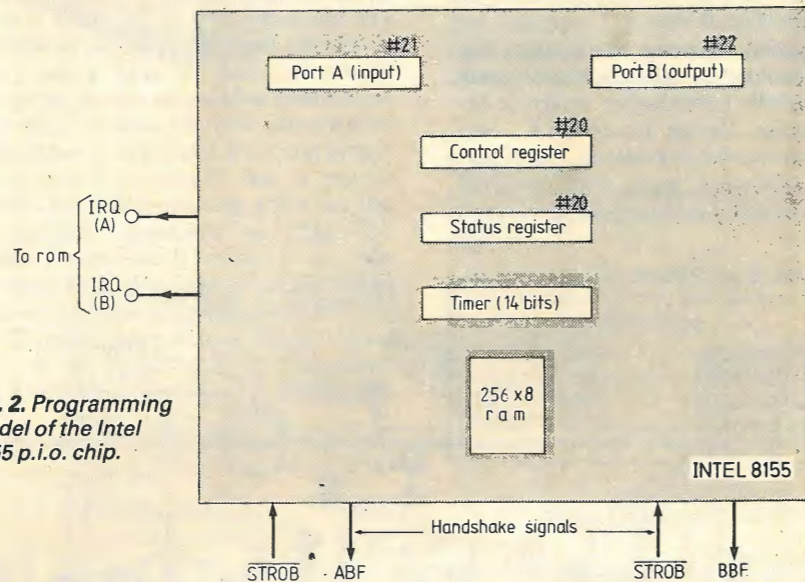
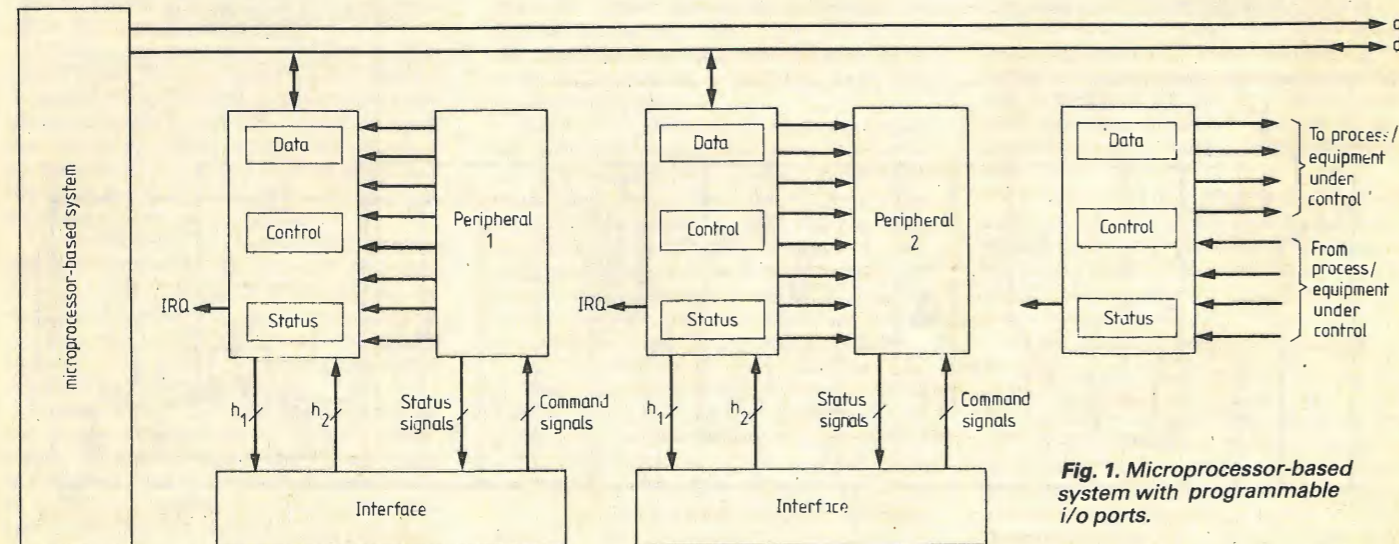

Fig. 2. Programming model of the Intel 8155 p.i.o. chip.
Fig. 1. Microprocessor-based system with programmable i/o ports.
Fig. 2. Use of a dummy shunt branch where a series arm contains more than two components. Values shown are for a 10MHz bandpass filter with midband frequency 12MHz and rejection points at 6 and 24MHz. Original configuration at (a), dummy shunt branch inserted at (b).
Fig. 2(a) shows a bandpass filter with a bandwidth of 10MHz, a mid-band frequency of 12MHz, and rejection frequencies at 8 and 24MHz. The series arm has the form of two parallel tuned circuits in series, i.e. a total of four reactances, usually the maximum number likely to be met with. The device in this instance is to add between points A and B a shunt inductor of such a magnitude that it cannot possibly have any practical effect on the loss and delay responses, Fig. 2(b). The original three-branch network is now converted to a five-branch ladder which can easily be handled by the program.
3MHz with a mid-band frequency of 2MHz and a rejection frequency at 0.8MHz. Because it has a bandpass characteristic it is possible to employ the analogue of Fig. 2(b), that is the series insertion of a very large capacitor, Fig. 3(b). The resulting five-branch ladder can now be treated normally. In this instance, there is an alternative which applies equally to lowpass structures, that is the insertion of a parallel tuned circuit with a zero-valued inductor and a capacitor of any nominal size, Fig. 3(c).
The most effective design strategy is to choose those i/o chips whose terminal characteristics can be programmed to match those of the peripheral in question. But such an objective however would be unrealistic because in practice the microprocessor system will have its own programmable i/o chips already interfaced to the microprocessor chip, as illustrated in Fig. 1. In situations like this a good starting point is to derive a simplified programming model of the i/o chip, omitting those features that are not likely to be used. Initially, a programming model should contain the ports, typically two per chip, the control and status registers. Programming models of the Intel 8155, p.i.a. and v.i.a. are shown in Fig. 2, 3 & 4.
- 1 – how the interface initiates an m.p.u. read operation for moving data into a microprocessor (from peripheral 1 in Fig. 1)
- 3 – how the interface initiates an m.p.u. write operation for moving data from the microprocessor to a peripheral m.p.u. (peripheral 2 in Fig. 1)
requested from the m.p.u. by pulling the STROB terminal in Fig. 2 low when the m.p.u. responds when the requested item of information has been loaded into the 8155, the signal on terminal BBF changes to 1.
and SFFB are bits 1 and 4 of the status register – see Fig. 2. Status flip-flop signals are normally made available on terminals for use as interrupt flags if desired. Such flags can be disabled by program; bit 2 in Fig. 2, when 0 disables interrupt flag IRQ(A).
Programming models of the 8155, the p.i.a. and v.i.a. are shown in Figs 2 & 3.
Programming model, Figure 2. The control word 0A disables the interrupt terminals and to program the 8155 i/o chip to function in the following way.